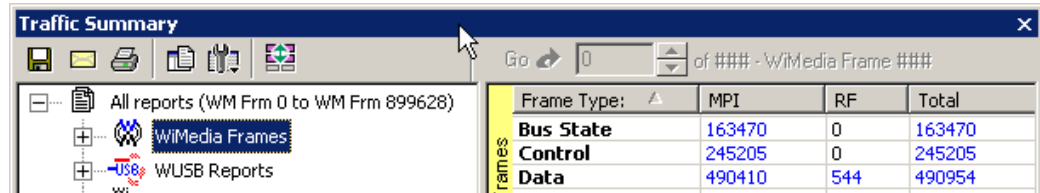

Figure 9.11 Selecting Traffic Summary Range
Step 3 Click the **Select Range** button on the Traffic Summary tool bar (Figure 9.11).